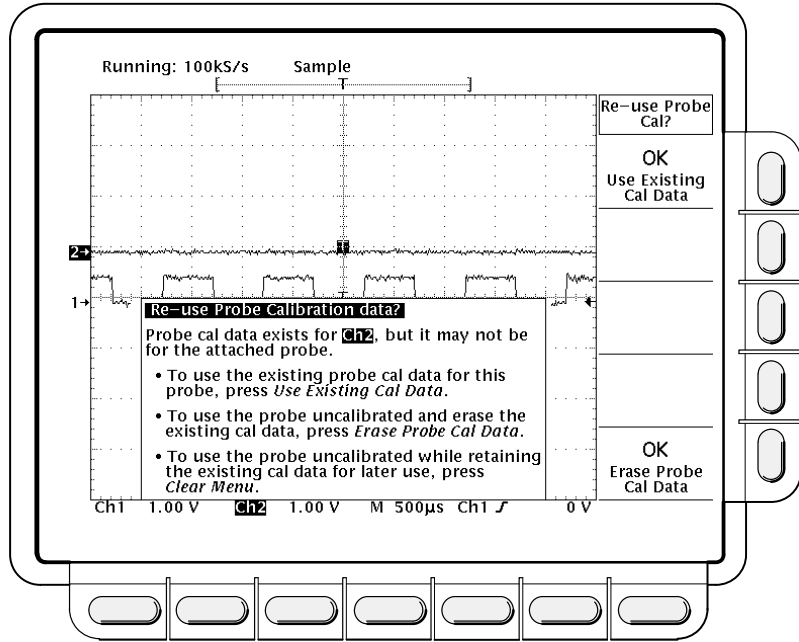

Figure 3-56: Re-use Probe Calibration Data Menu
- If a probe has a simple oscilloscope interface and the probe attenuation factor is the same as was stored at the last Probe Cal, the oscilloscope cannot determine whether it is the same probe. Therefore, it displays the *Re-use Probe Calibration data?* menu (see Figure 3-56).